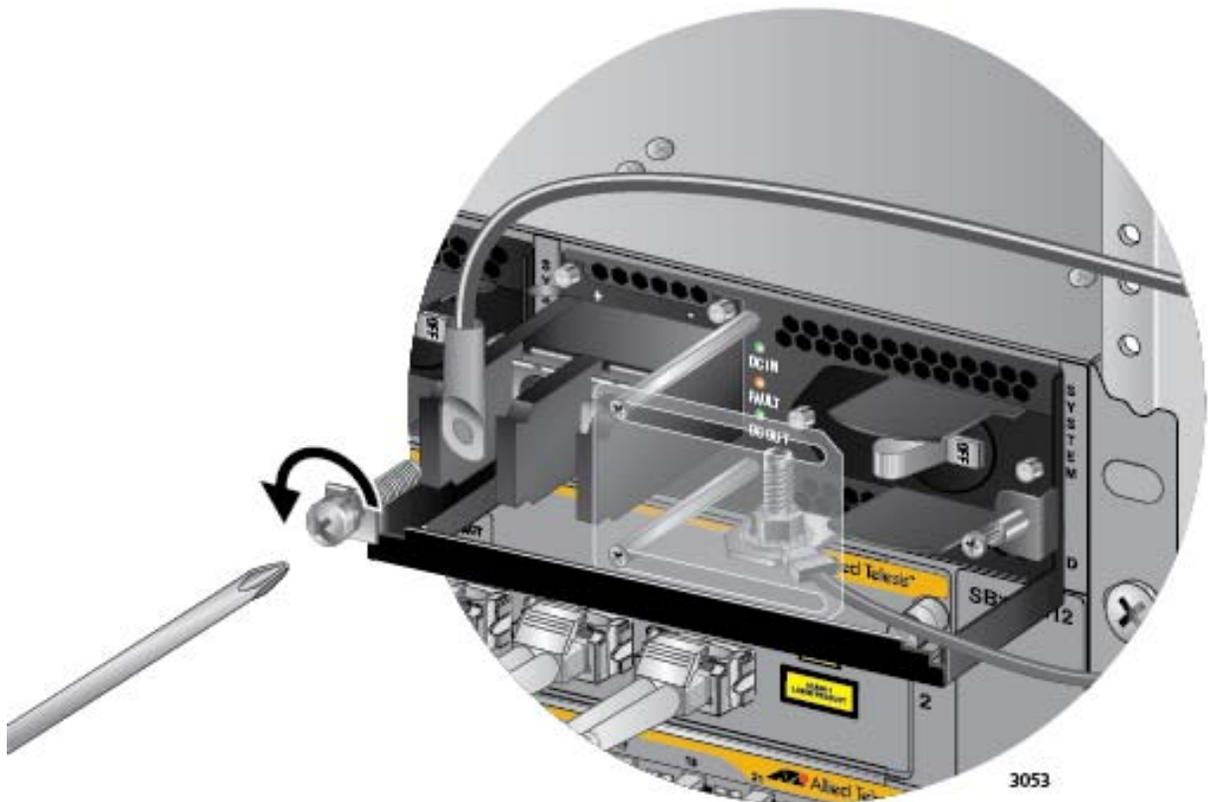

Figure 153. Removing the Positive Lead Wire from the Terminal Block
6. Use a #3 screwdriver to remove the positive (+) lead wire from the terminal block. Refer to Figure 153 on page 245.